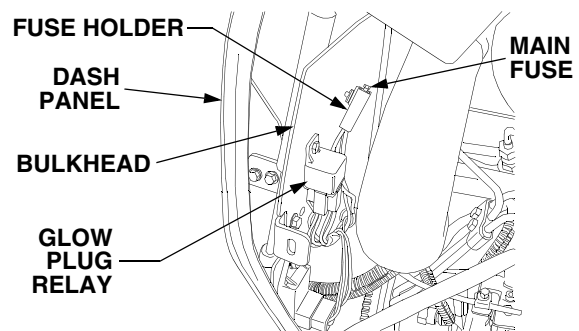

Figure 38
- Locate the fuse holder on the front of the bulkhead, just inside the right side of the dash panel. Refer to Figure 38.